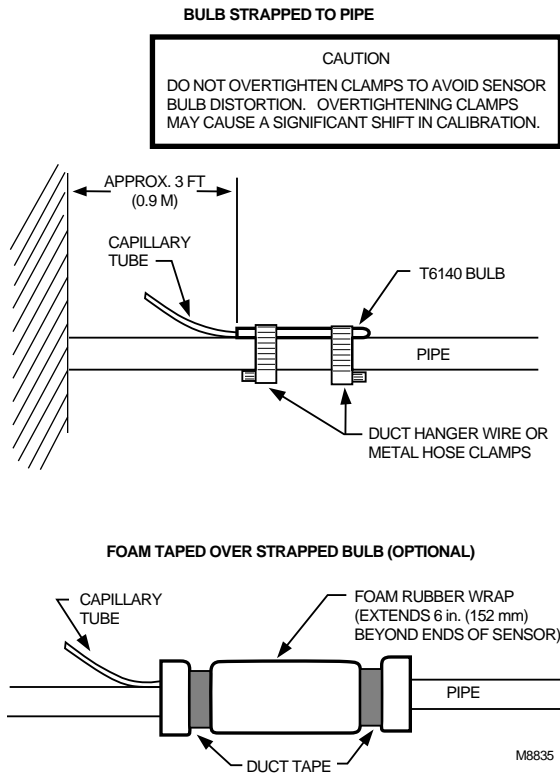

Fig. 6. Strap-on mounting of T6031 bulb on a boiler discharge pipe.
1. Secure controller bulb to pipe with duct hanger wire or metal hose clamps (Fig 6. top).
2. Cover bulb and pipe with foam rubber insulation extending at least 6 in. (152 mm) beyond both ends of bulb (Fig. 6, bottom).